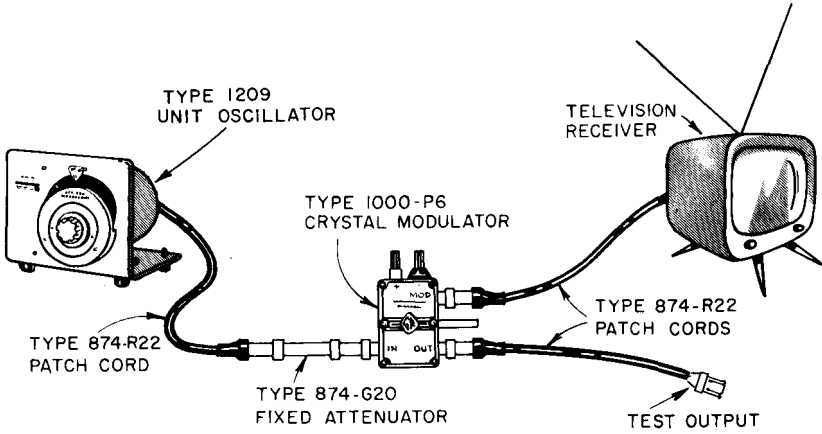

Figure 4. Setup of Unit Oscillator with Video Modulator for Use as Television Signal Generator.
3.3 UNIT OSCILLATOR AS A TELEVISION SIGNAL GENERATOR. Used in combination with a Type 1000-P6 Crystal Diode Modulator and a Type 874-G20 20-db Fixed Attenuator, the Unit Oscillator is a convenient source of television signals over its entire carrier-frequency range if video modulating voltage is available. (see Figure 4.) The modulating voltage required can be obtained from a standard television receiver tuned to the local channel.